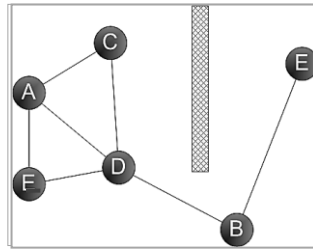

Figure 1.1 Snapshot of LENS Wireless peer-instrument locations
- LENS data travel in a nonlinear manner. With the locations of peer instruments A through F as shown below in Figure 1.1, messages travel among instruments that may be separated by distance or by a structure (gray bar). For example, if instrument "E" experiences an alarm, the other instruments in the group will experience a peer alarm, which will include details about the instrument that is in alarm.